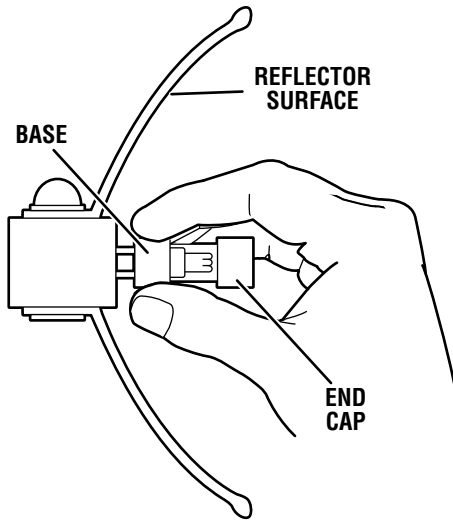

Figure 2-4.
3. Make sure the electrical power to the fixture is "OFF" and the bulb is cool. Using caution not to touch the reflector surface, hold the bulb by the base and pull out. See Figure 2-4. Slightly working the bulb back and forth may aid in removal.